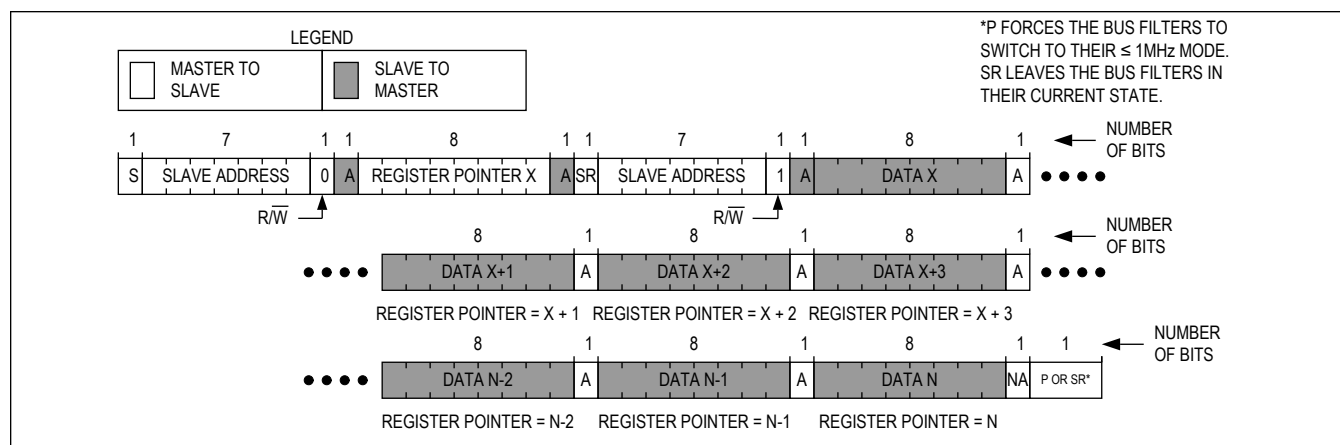

Figure 19. Reading Continuously from Sequential Registers X to N
Figure 19 shows the protocol for reading from sequential registers. This protocol is similar to the read byte protocol except that the master issues an acknowledge to signal the slave that it wants more data: when the master has all the data it requires it issues a not acknowledge (nA) and a stop (P) to end the transmission.